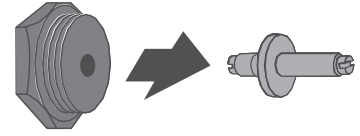

Figure 13
- 4** Remove retainer pin by pulling it out. (See Figure 13)